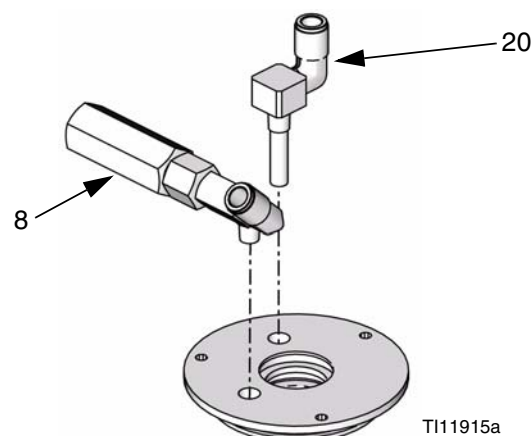

FIG. 2: Install Fitting and Relief Valve Outlet
7. Install recirculation fitting (20), relief valve outlet (8), and return line fitting as shown in FIG. 2 and FIG. 3.